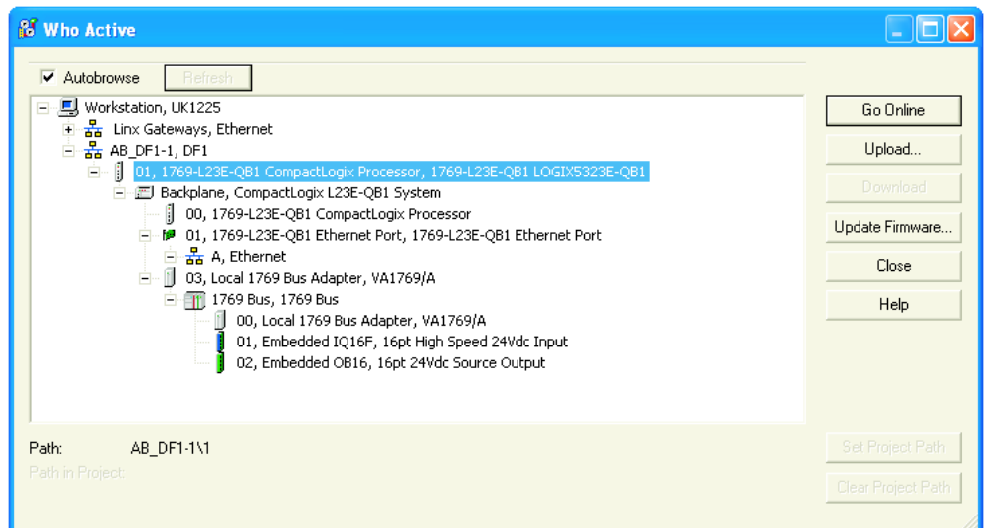

Figure 80 Who Active Window
1. Select the relevant instrument (Figure 80) and click on 'Update Firmware'. In the 'Choose Firmware Revision' window, select the latest version. Click on 'Update'.